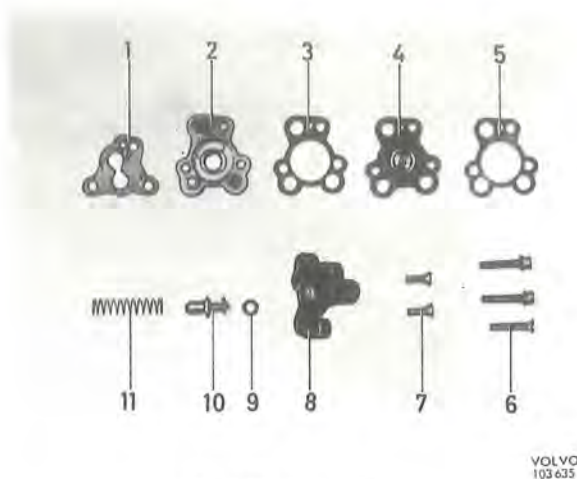

Fig. 2-78. By-pass valve
N.B. When adjusting, do not press the adjusting screw inwards since the rubber ring (9, Fig. 2-78) sealing between the screw and cover can drop out of position. Check for air leakage by e.g. placing a finger over the rubber ring hole.
The by-pass valve is replaced complete. The valve is removed from the carburettor by screwing out the three screws (6, Fig. 2-78). Clean the gasket surface and fit the new valve with gasket (1). Carry out a function test. Note that the by-pass valve is marked y on the cover.